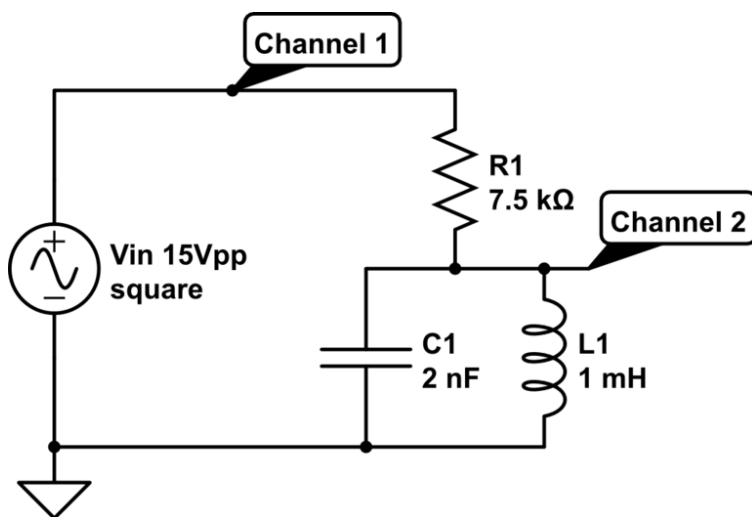

Figure 1: Band Pass Filter
3. Construct the band pass circuit shown in figure 1 and set the function generator to a square wave with a frequency equal to the one you just found. Overlay the input and output signals on the scope screen.